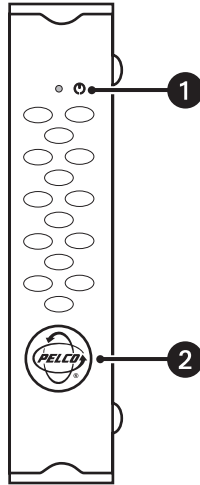

Figure 2. Front Panel of SX8205R Module
Figure 2 illustrates the front panel of the SX8205R module.
- The Power LED (Pelco badge) on the front panel (refer to Figure 2) allows you to monitor operating power. Refer to Table B for information about the Power LED and associated troubleshooting guidelines.